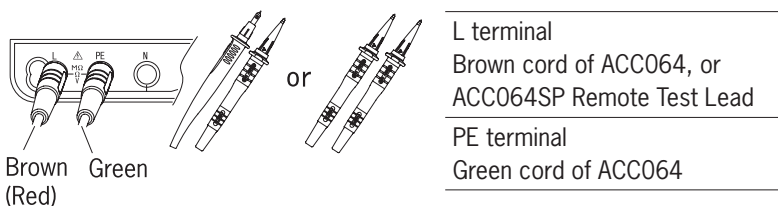

Fig. 9
- 2 Insert the Test Leads to the L and PE terminal on KT64 respectively as shown in Fig.9.